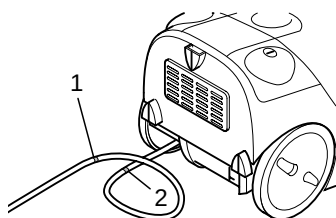

Fig. 6
2. Pull the cable, by holding the plug, until the yellow mark is reached (Fig. 6/1).
If the red mark (Fig. 6/2) is visible, then retract the cable again until it is no longer visible, ▷ *Chapter 3.2, "Switching off and retracting the power cable"*. Otherwise the cable can break off. There is a risk of electric shock.